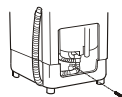

Figure 3
3. Extend the drain hose from the installation hole at the right side of the base frame. Fix the drain hose onto the base frame with the drain hose frame and fasten the screw. Then set the drain hose hook on the drain hose and hang the drain hose on the hanging hole of the cabinet. (As indicated in Figure 3)